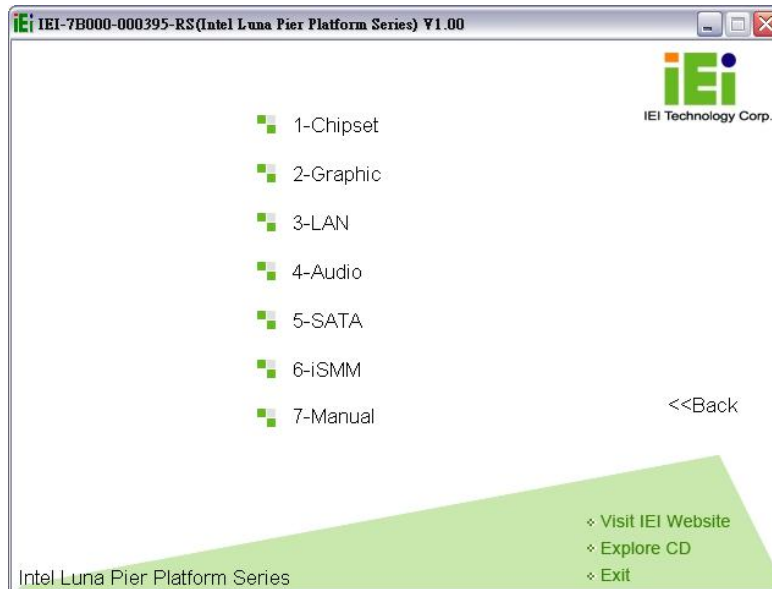

Figure 4-21: Available Drivers
Step 4: A new screen with a list of available drivers appears (Figure 4-21).